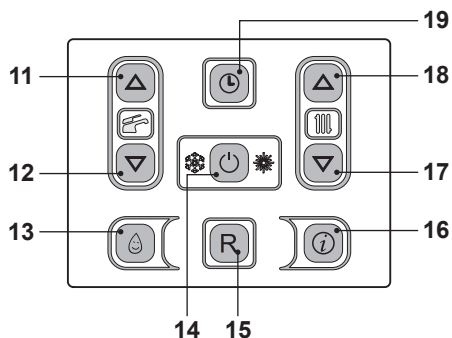

Fig. 7.8
- Press the 14 key for 2 seconds until both  and  symbols appear on the display Fig. 7.8.
- Switch off the boiler by pressing the 14 (Fig. 7.8) key for 2 seconds until the - - - - symbol appears on the LCD display (Fig. 7.7).
Press the reset key on the boiler control panel 15 (Fig. 7.8) to reset its functioning.